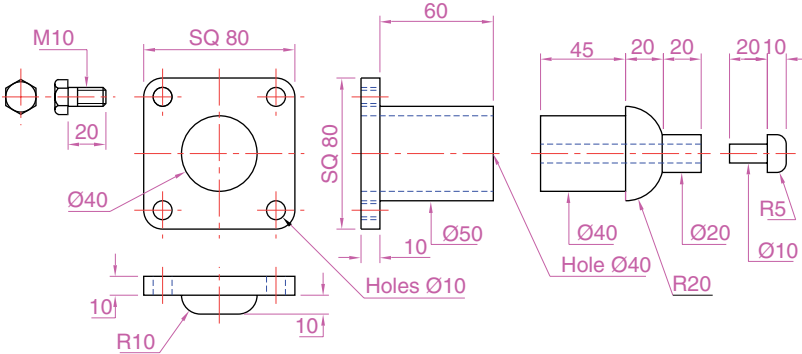

Fig. 20.19 Exercise 4 – details of shapes and sizes
4. Construct an assembled 3D model drawing, working to the details given in Fig. 20.19.